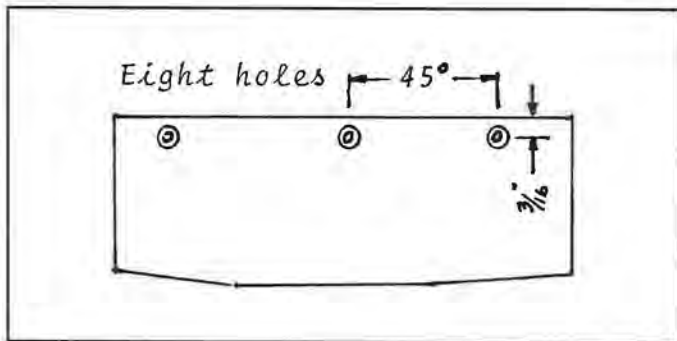

Figure 3.
*Step 8.* Mark, and drill eight holes with a #44 drill, 45° apart around the open edge of the drum, 3/16" down from the top. Countersink these holes to fit a 2-56 flathead brass screw. (See Figure 3.)